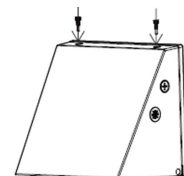

Fig. 1.5
7. Tighten both screws on the top of the luminaire to complete the installation (Fig. 1.5).